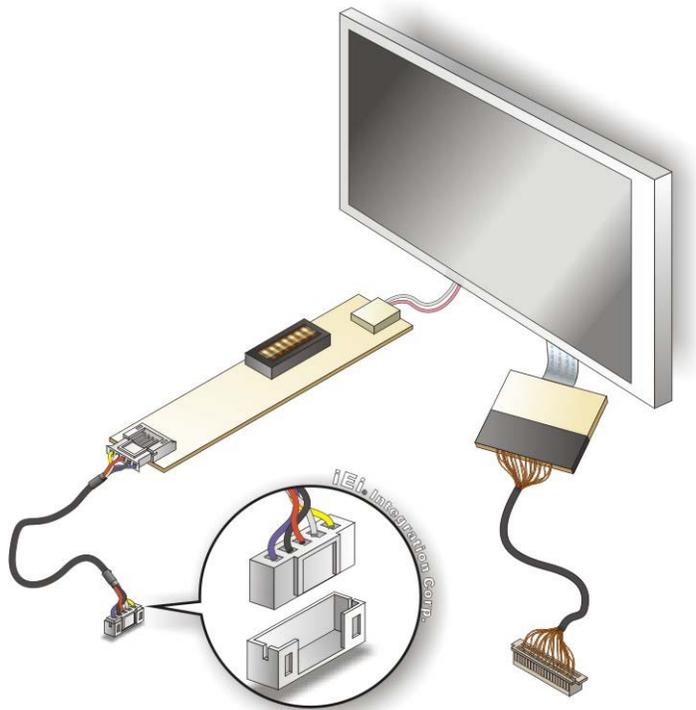

Figure 4-19: Backlight Inverter Connection
Step 4: **Connect backlight connector.** Connect the backlight connector to the driver TFT LCD PCB as shown in **Figure 4-19**. When inserting the cable connector, make sure the pins are properly aligned.